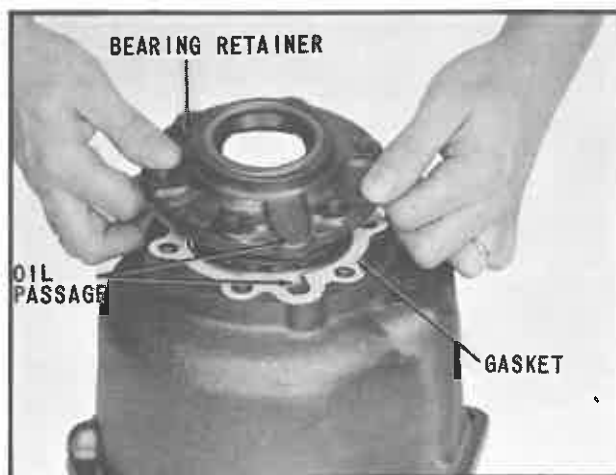

Fig. 28 Installing Bearing Retainer and Gasket
10. Remove the six hex head bolts and lock washers and then remove the bearing retainer, as shown in (Fig. 28).
22. Place the bearing retainer gasket on the reduction housing, aligning the slot in the gasket with the oil hole in the housing (Fig. 28).
23. Inspect the rubber lip of oil seal for cuts, cracks, or other damage that could cause leakage, and replace if necessary. Assemble the bearing retainer on the reduction housing, aligning the oil passages as shown in (Fig. 28).